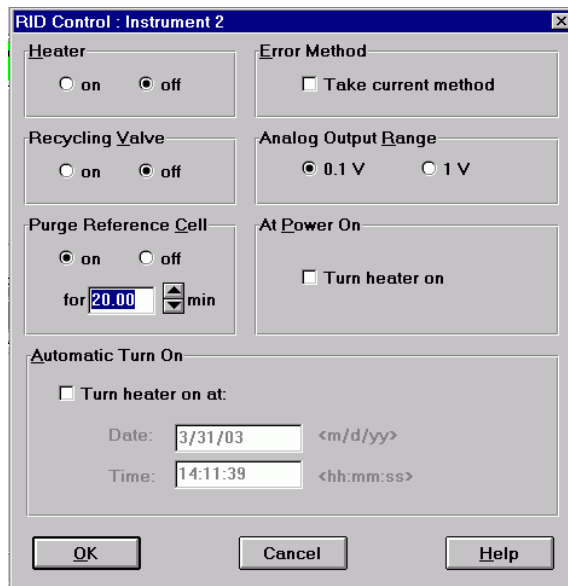

Figure 26 RID Check Out Sample Control
- 4 Turn the heater **ON** and purge the detector reference cell for 20 minutes as shown in Figure 26 on page 74: